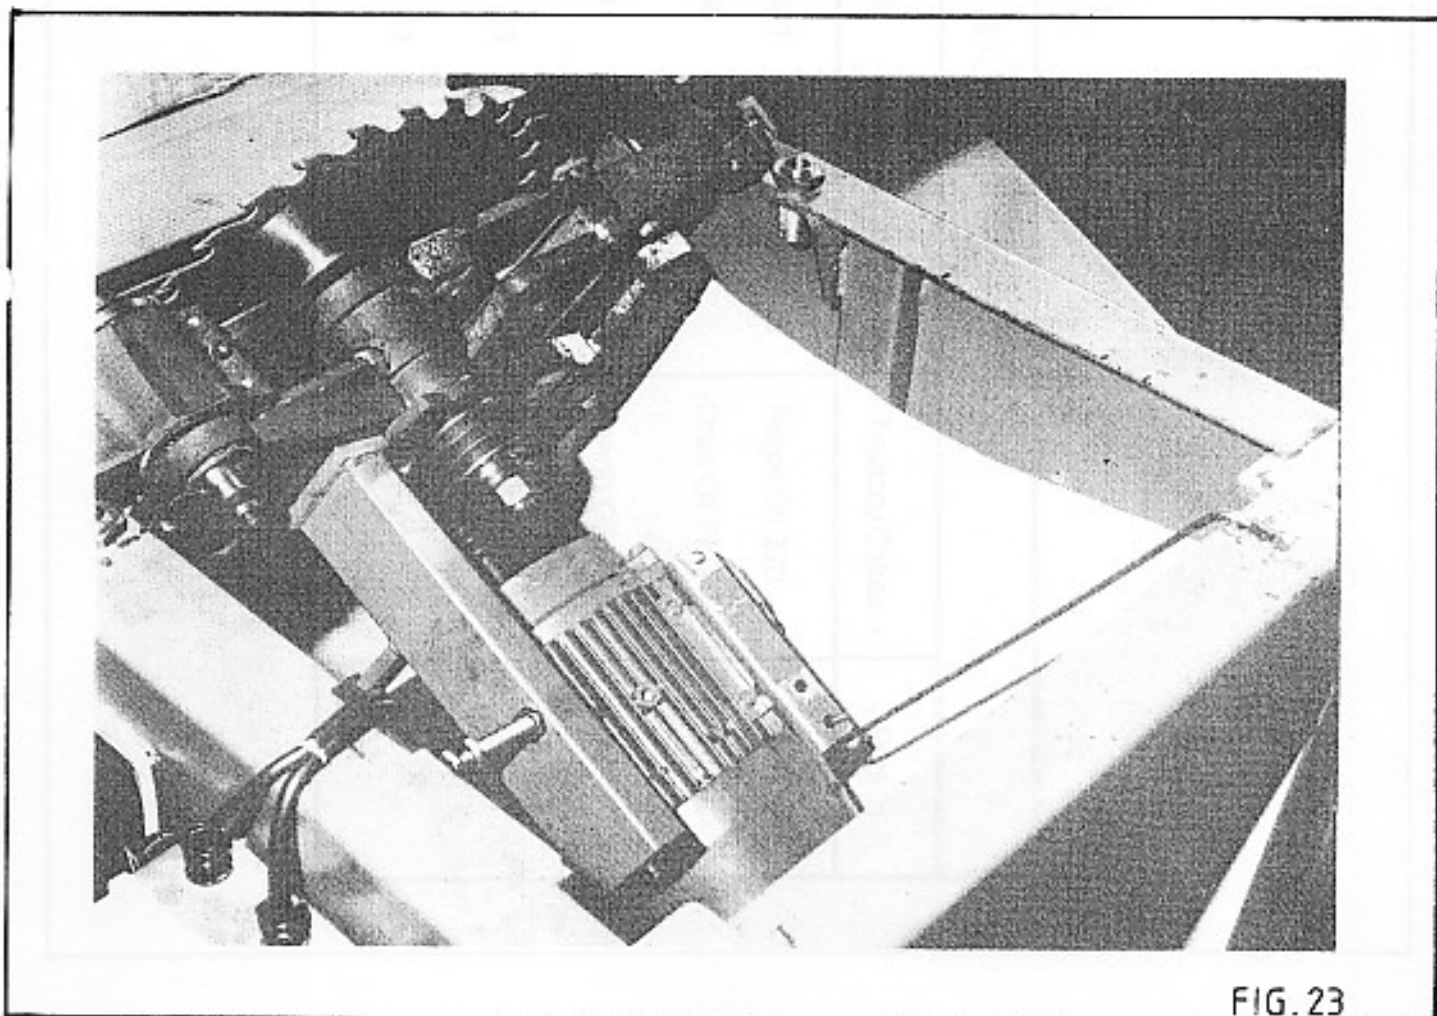

FIG. 23
- e) Position tension stay FIG.23 into hole on motor foot.